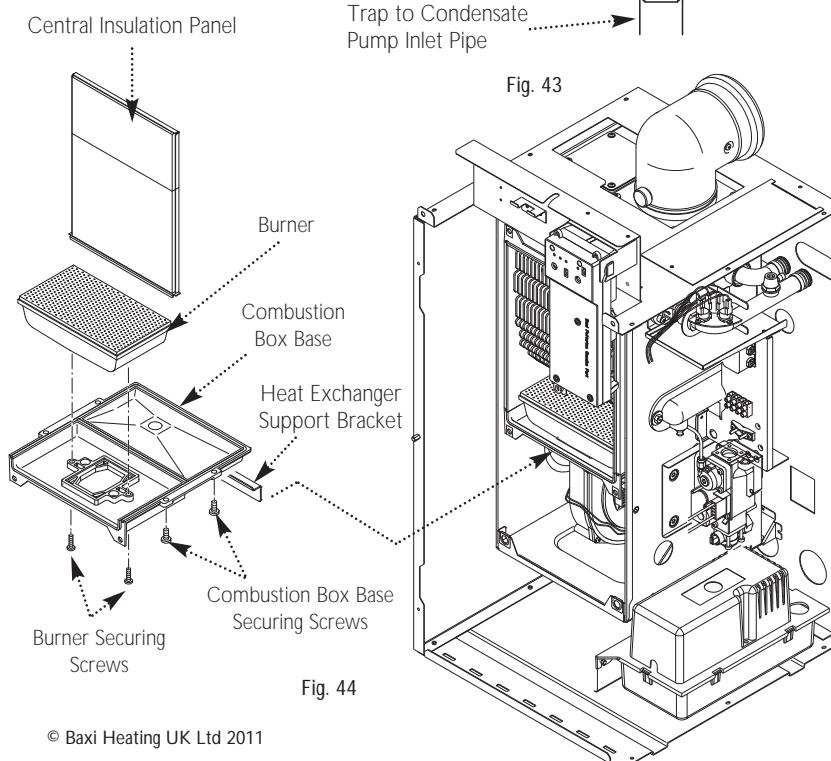

Fig. 43
- g) Undo the condensate trap securing nut, lock nut and the condensate drain pipe. Remove the condensate trap and disconnect the sensor leads (Fig. 43). Clean the trap and refit the drain plug.